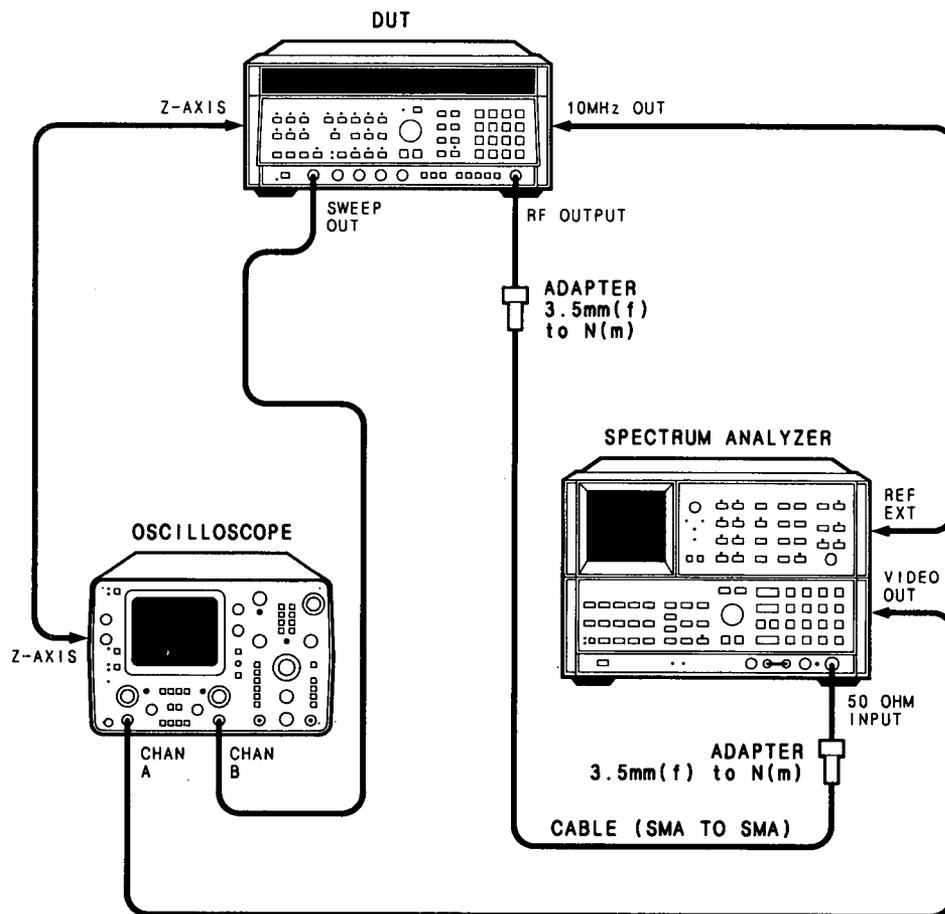

Figure 5-29. YO Delay Compensation Test Setup
4. Connect the test equipment as shown in Figure 5-29.